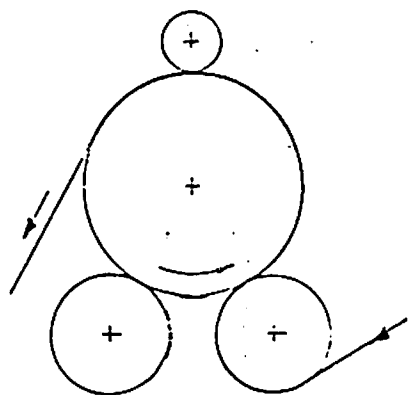
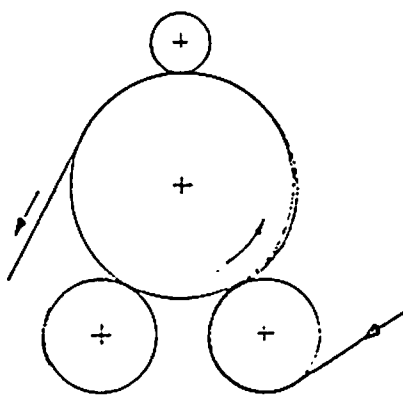

Fig. 6
Fig. 7
7. Lower rider roll (switching position "winding"). Start up machine at crawl speed. The narrow Scotch tape will separate from the smooth surface of the wider tape (fig. 6); the new web entering between the winding drums will adhere to the narrow Scotch tape without wrinkle formation as the latter comes around to the rear winding drum (fig. 7).